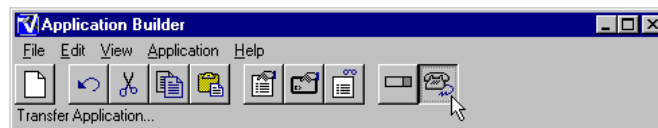
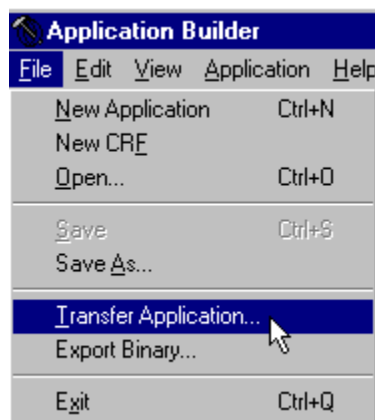

Figure 1-9 Application Builder Toolbar – Transfer Application
Figure 1-10 File Menu – Transfer Application
10. Click the **Transfer Application** button on the toolbar (Figure 1-9) or choose **Transfer Application** from the **File** menu (Figure 1-10).